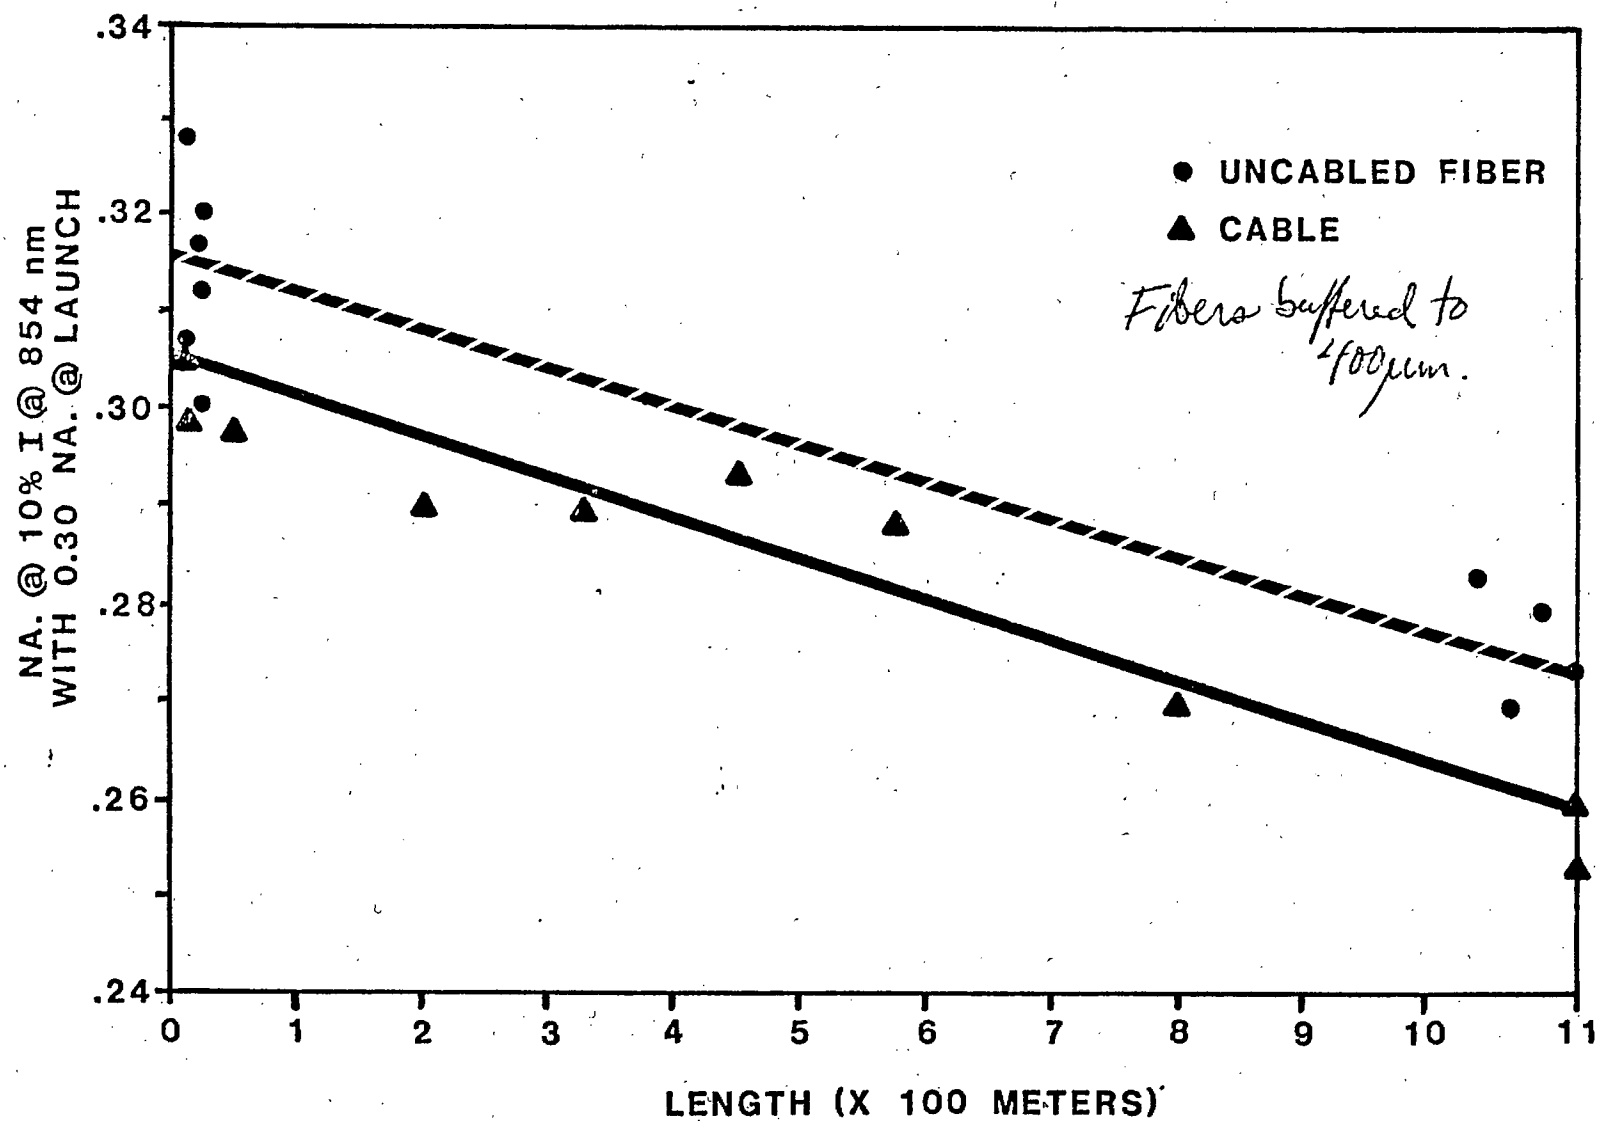

Fig. 3
NA: The increase in attenuation occurs as higher order leaky modes are lost. Because of this loss we also observe a moderate drop in numerical aperture (NA). Figure 3 compares the NA change with length for the 400 μm diameter fiber before and after cabling.